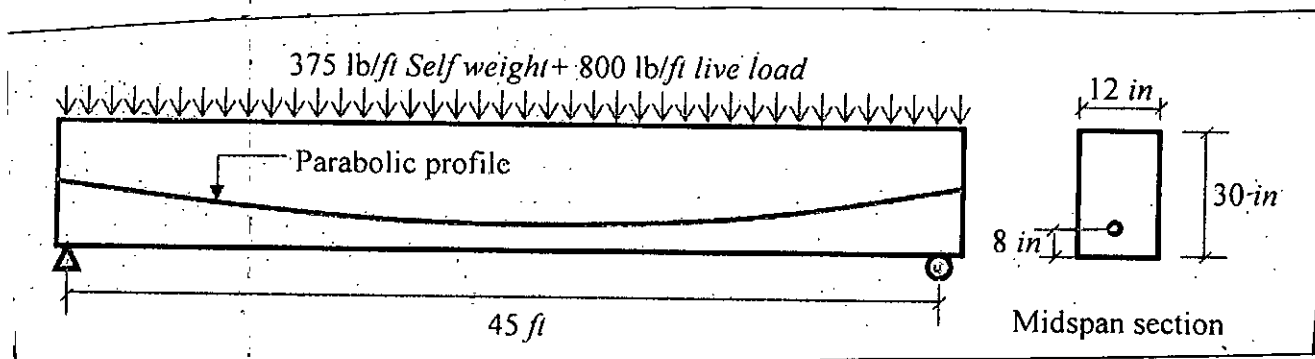

Fig. 6
8. (a) A posttensioned simple beam as shown in Fig. 6 has an initial prestress of 145000 psi, reducing to 126000 psi after deducting all losses and assuming no bending of the beam. The parabolic cable has an area of 2.8 sq in., $n=6$. The beam carries superimposed dead load of 800 plf in addition to its own weight of 375 plf. Compute the stresses in the steel at mispan, assuming: (18)
- (b) For the beam shown in Fig. 6 compute the total dead and live uniform load that can be carried by the beam.